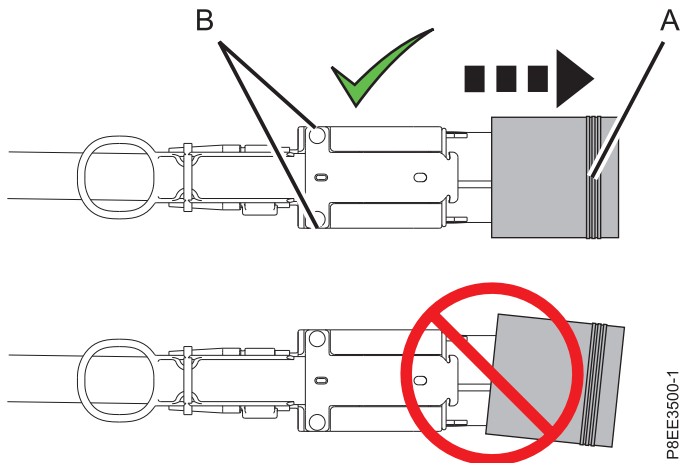

Figure 5. Removing the protective cover from the connector on the expansion drawer cable
- a. To remove the protective cover, hold the cable housing (B) on the short edges with the fingers on one hand.
- b. Then, grasping the cover on the long edge (A) with the fingers on the other hand, pull the protective cover off. See Figure 5 on page 5.